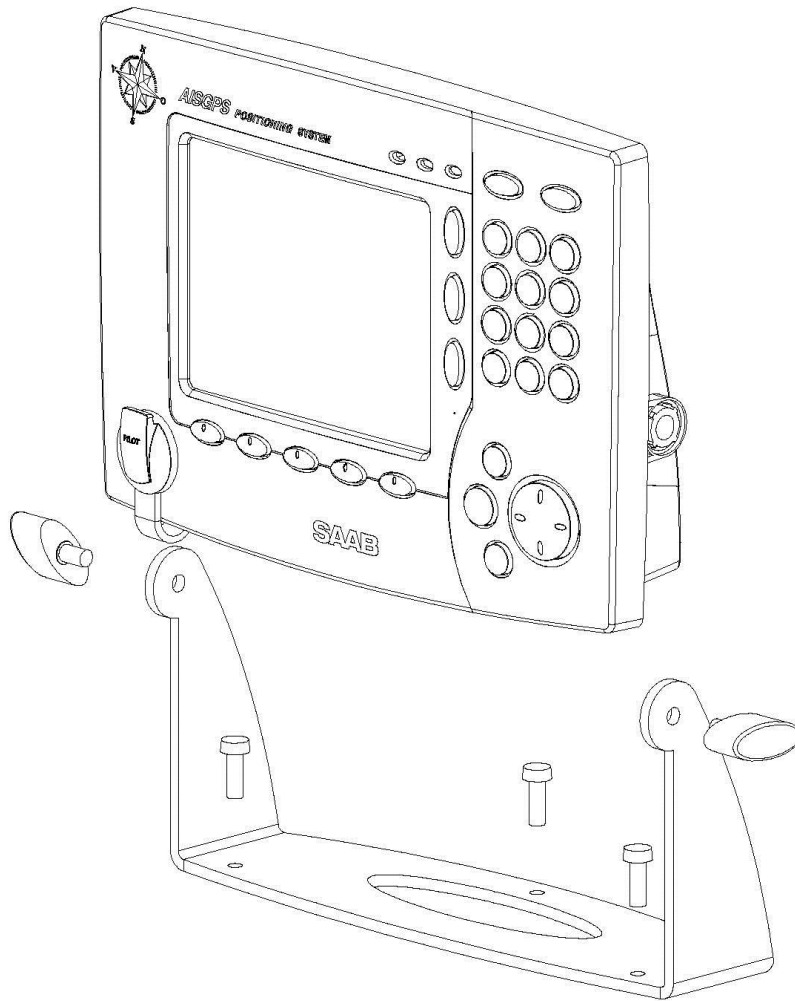

Figure 4-3: Gimbal mount
2. Fasten the gimbal mount on a flat surface with three screws, see Figure 4-3 below. The type of screws has to be chosen considering the panel material. Note that the slots on the end of the gimbal mount have to face the direction in which the R4 Display is to be mounted.